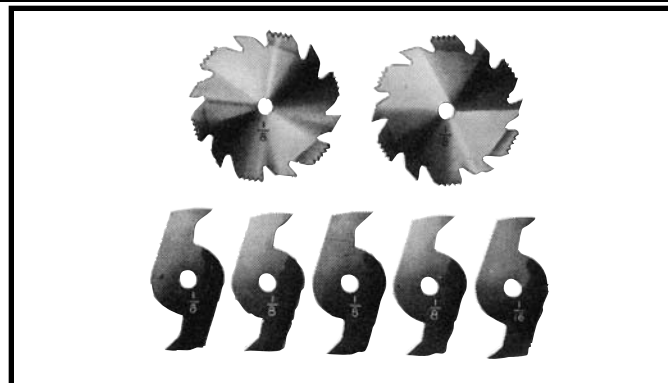
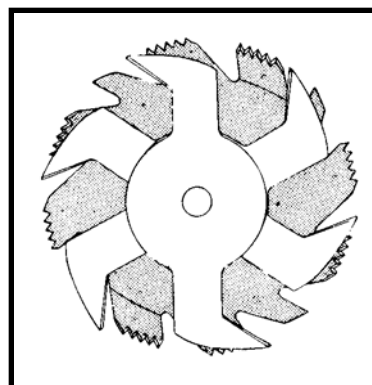
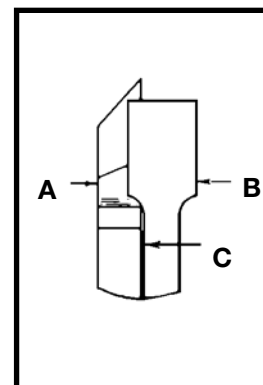

Fig. 71
Fig. 72
Fig. 73
1. Dadoing is cutting a rabbet or wide groove into the work. Most dado head sets are made up of two outside saws and four or five inside cutters, (Fig. 71). Various combinations of saws and cutters are used to cut grooves from 1/8" to 13/16" for use in shelving, making joints, tenoning, grooving, etc. The cutters are heavily swaged and must be arranged so that this heavy portion falls in the gullets of the outside saws, as shown in Fig. 72. The saw and cutter overlap is shown in Fig. 73, (A) being the outside saw, (B) an inside cutter, and (C) a paper washer or washers, used as needed to control the exact width of groove. A 1/4" groove is cut by using the two outside saws. The teeth of the saws should be positioned so that the raker on one saw is beside the cutting teeth on the other saw.